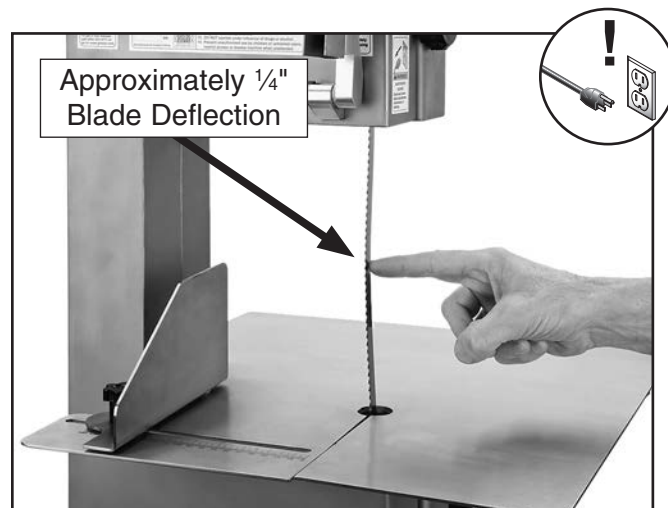

Figure 9. Measuring blade tension.
3. Rotate blade tensioning knob to tension blade until there is approximately $\frac{1}{4}$ " deflection when moderate pressure is pushed against middle of blade, as shown in **Figure 9**.